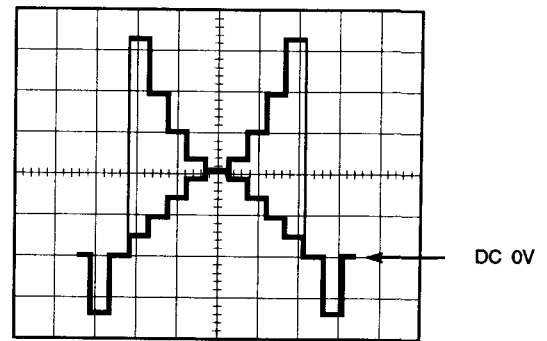

Fig. 5-1-21
- Adjust VR501 so that the Black portion of the Video signal becomes 0 V DC (Ground level) as show in Fig. 5-1-21.
- Adjust VR601 so that the Black portion of the Video signal becomes 0 V DC (Ground level) as show in Fig. 5-1-21.
- Adjust VR701 so that the Black portion of the Video signal becomes 0 V DC (Ground level) as show in Fig. 5-1-21.